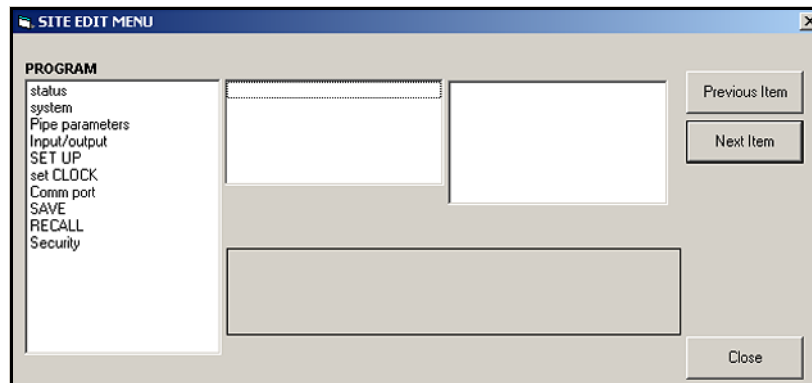

Figure 36: The Site Edit Menu
5. To open a particular menu, double-click on that menu on the tree. For example, if you double-click on the *Site Edit Menu*, a screen similar to *Figure 36* below opens.